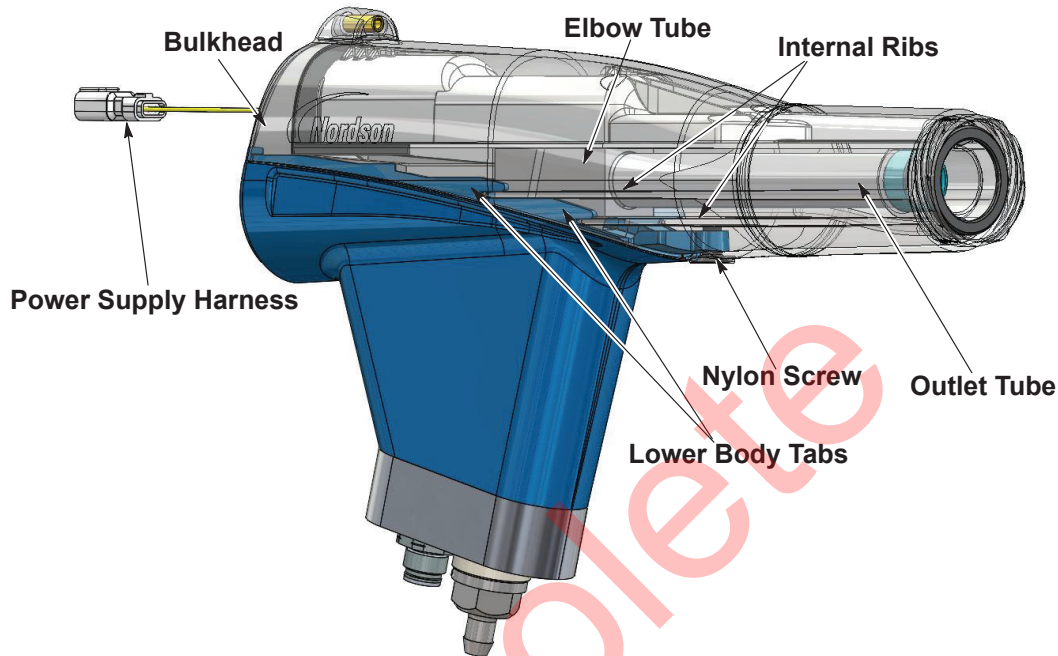

Figure 5-5 Spray Gun Re-assembly
1. See Figure 5-5. Align the gun body with the lower body and slide them together, engaging the internal ribs of the gun body with the lower body tabs.